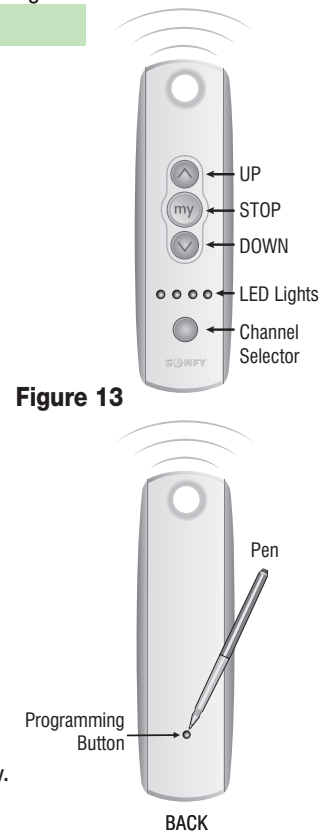

Figure 13
6. Put motor into USER MODE by pressing small programming button (Fig. 13) on back of transmitter until motor jogs.
2. Hold programming button (Fig. 13) for 15 seconds. Motor will jog up and down once; pause and then jog a 2nd time. Motor is now reset and ready to be programmed.